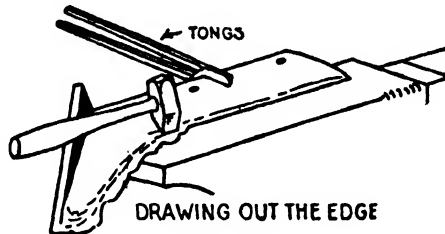

FIG. 76
5. Return it to the fire with the cutting edge down and the edge of the point over the tuyere. Heat to a bright red, remove from the fire and turn upside down on the anvil so that the side of the point rests flat on the anvil. With a peen or cross-peen hammer draw out the cutting side of the point to a thin edge for three or four inches. Fig. 76. Heat further